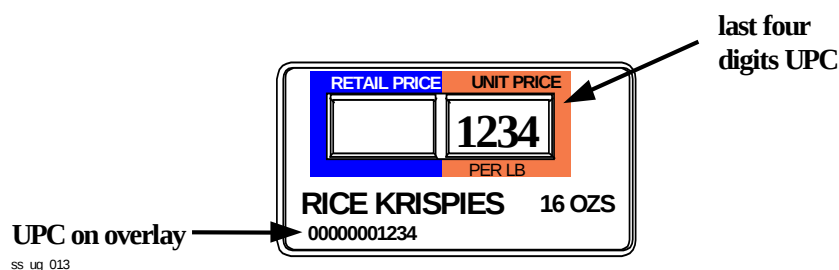

Figure 5-9. ESL Displaying Last Four Digits of UPC
2. Compare the four digits displayed on the ESL to the last four digits of the UPC on the overlay. (See *Figure 5-9, ESL Displaying Last Four Digits of UPC*.) Then compare the four digits displayed on the ESL to the last four digits of the UPC on the product. If all three UPCs match go to step #3. If all three UPCs do not match, go to step #4.